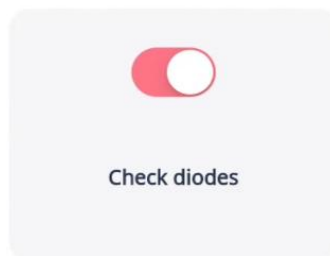

Figure 5.4-31
- Click "Manipulator" to monitor the handlepiece diodes.(See Figure 5.4-31)